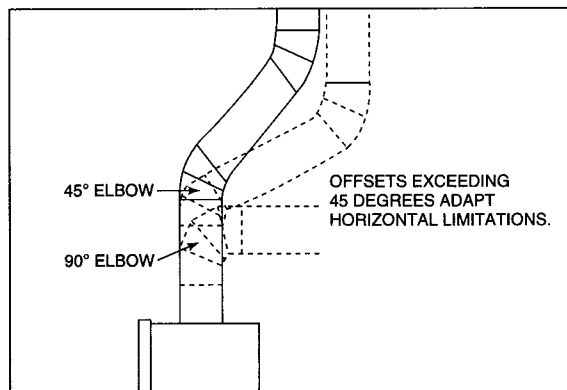

Figure 6
2. Using Elbows. Elbows exceeding 45 degrees from the vertical shall be considered horizontal and therefore adapt horizontal run limitations. See Figure 6